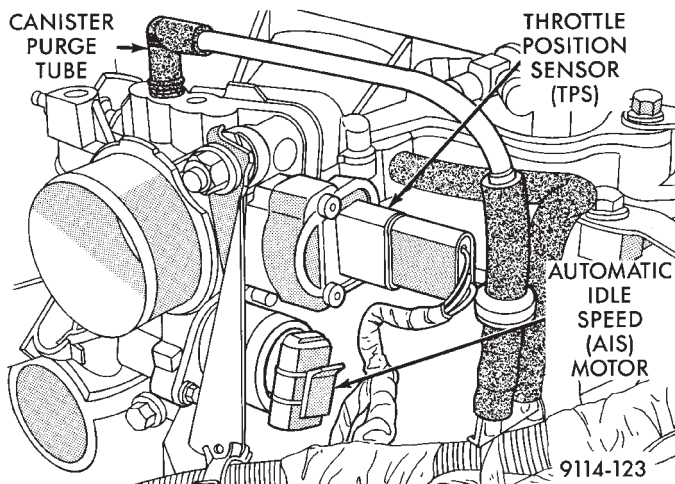

Fig. 7 Electrical and Vacuum Connection to Throttle Body
(5) Disconnect electrical connectors from the automatic idle speed (AIS) motor and throttle position sensor (TPS).
(6) Remove vacuum hose harness from throttle body (Fig. 7).